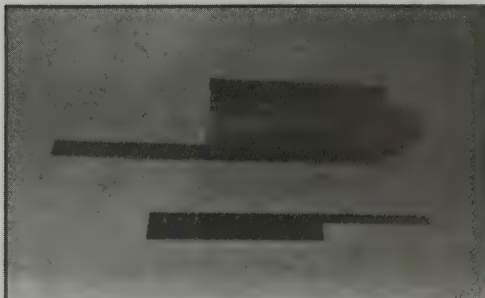

fig. 3. Copper strip is formed into a closed U-shaped box as shown here before installing the center strip and 1-watt resistors.
fig. 3. Stable transistor crystal oscillator circuit. Equivalent circuit in (B) shows how 1500-pF capacitors swamp out any internal impedance changes which would cause the output frequency to drift.